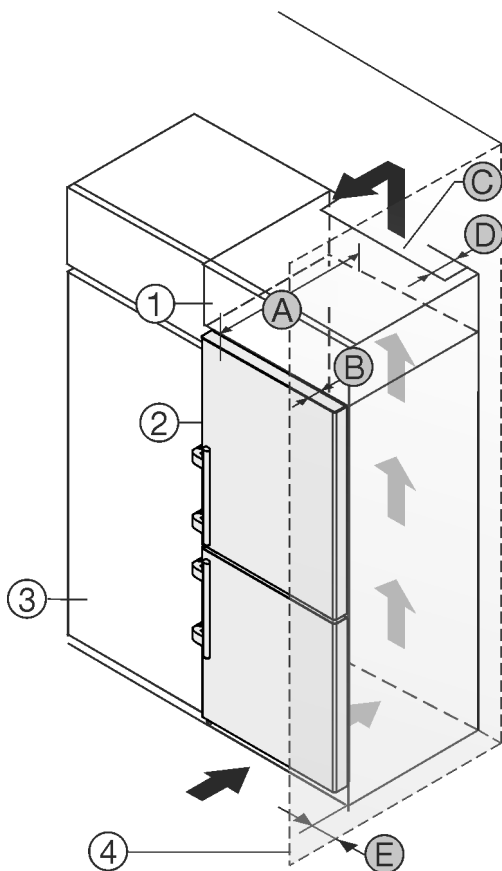

Fig. 27
The appliance can be built into kitchen units. A top cupboard Fig. 27 (2) can be added above the appliance in order to bring the appliance Fig. 27 (1) up to the height of the fitted kitchen units.
The appliance can be installed right next to the kitchen cabinet Fig. 27 (3). The appliance must protrude by depth Fig. 27 (B) from the front of the cabinet so that the doors can be opened fully. The appliance may protrude further depending on the depth of the kitchen cabinets and whether wall spacers are used.
- At the back of the top cabinet, there must be an air outlet shaft with depth Fig. 27 (D), spanning the entire width.
- The ventilation shaft Fig. 27 (C) must be observed under the ceiling.
If the appliance is installed with the hinges next to a wall Fig. 27 (4), the distance Fig. 27 (E) between the appliance and the wall must be observed. This is how far the handle protrudes when the door is open.